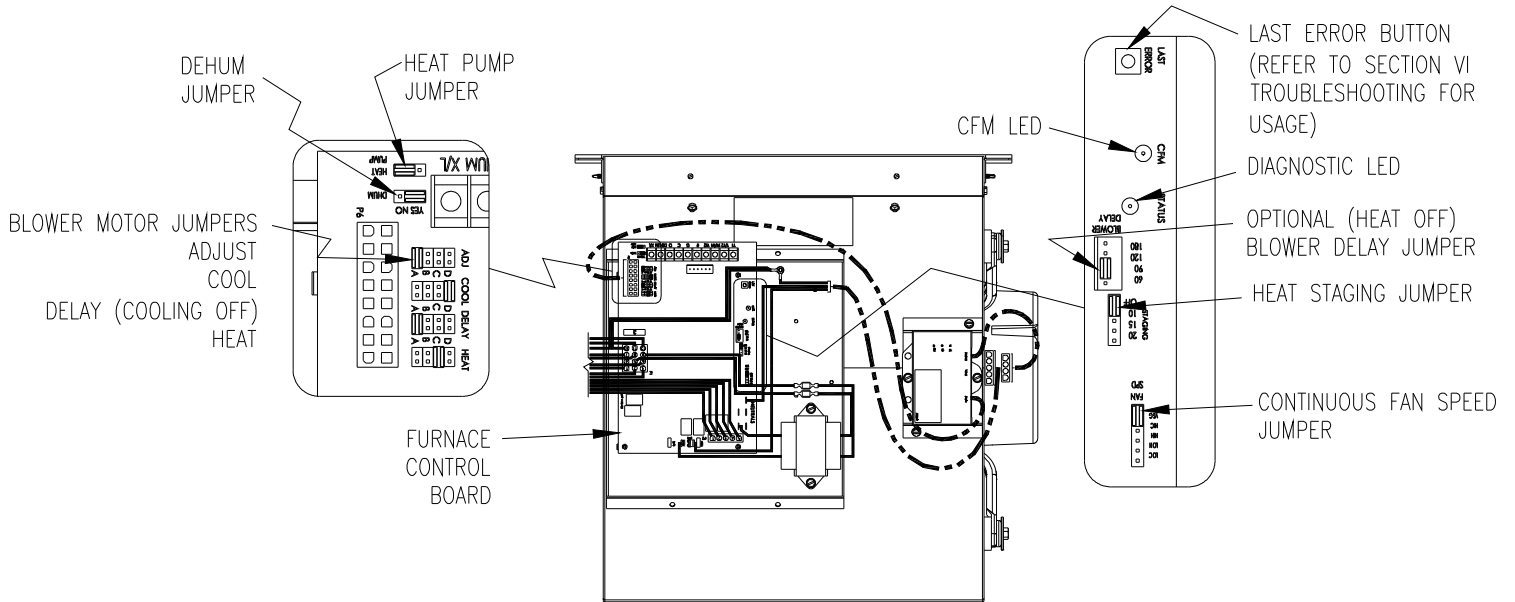

Figure 14
- A. The selection of blower motor speeds for the CLHX1 is made through the use of jumpers on the integrated control (Figure 14). There are jumpers for each of the following functions: Heat, Delay, Cool and Adjust. Each function has 4 selections: A, B, C and D. The default setting for each function is as follows:
- E. The optional blower delay jumpers on the integrated control (Figure 14) are used to determine the length of the heat delay-to-fan-off periods. The delay-to-fan-on period is preset and non-adjustable. The available options for the delay-to-fan-off are as follows: 60, 90, 120 & 180 sec.
The CLHX1 furnace control board has the option of selecting the preferred method for the activation of the second stage of heating. Selections are made with a jumper at the P5 terminal strip (see Figure 14). The selections available are as follows: OFF, 10, 15 & 20. The default selection is OFF.
When the thermostat calls for continuous fan (G) without a call for heat or cooling, the indoor fan is immediately energized according to the jumper setting on P17 (see Figure 14). The jumper selection offers 5 speeds for continuous fan (VS G, High Cool, Low Cool, High Heat and Low Heat). VS G indicates that the control should use the pre-programmed Variable Speed for G, which is 50% of the selected High Cool speed.